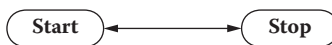

Figure 6.3 Symbols for boundaries.
1. Define the boundaries of the work (Figure 6.3).